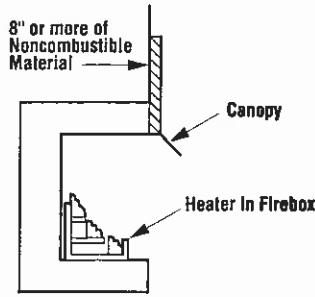

Figure 3
**Step 3. Noncombustible material (minimum requirements) without wood mantel or other combustible projections:** To install the firebox without wood mantel, shelf or other combustible projection above firebox opening, at least 8" of noncombustible material must be installed above the fireboxes described in this manual (*Figure 3*).